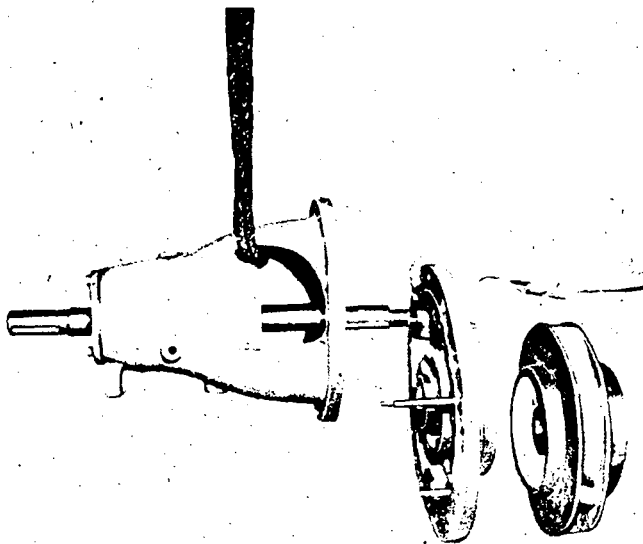

Fig. 19: Removal of pressure cover
Press pressure cover (163) out of the centering of the bearing bracket (330) (using thrust screws) and remove from the shaft (210) - fig. 19.